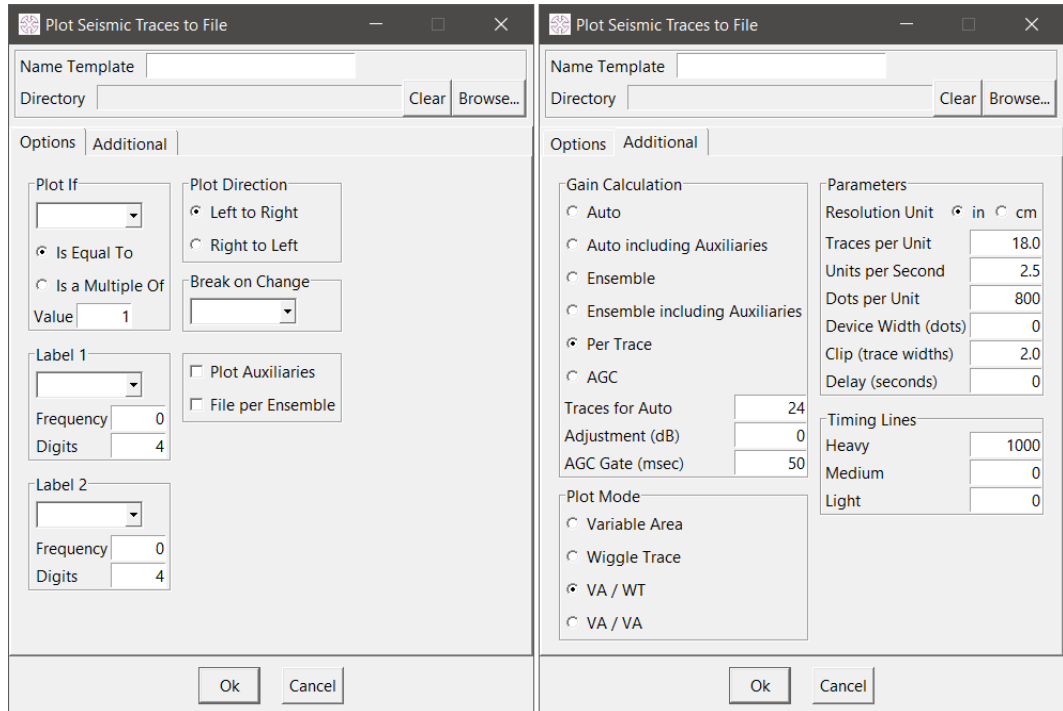

Figure 5-3 Plot parameter window
1. Right-click the trace connection red triangle and select **plotfile** from the dropdown list. **A Plot Seismic Traces to File** parameter window will open Figure 5-3 below.